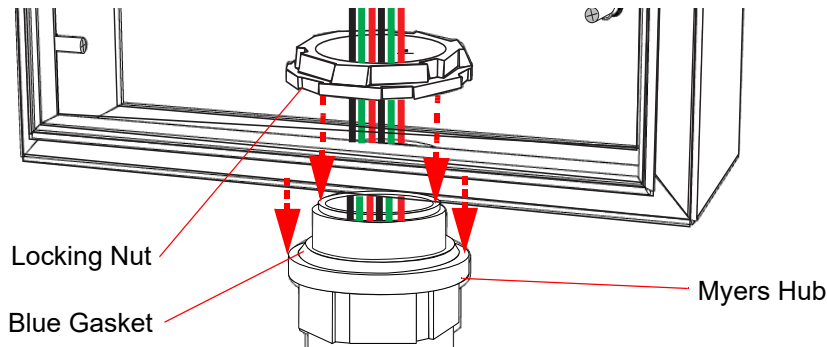

Figure 12. Attaching the WattZilla Enclosure Onto the Pole
15. Lower the WattZilla enclosure onto the top of the Myers hub (Figure 12).